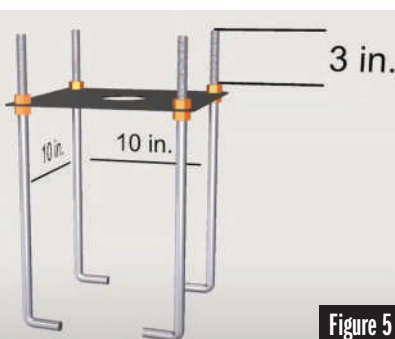

Figure 5
- Assemble the bolt plate as shown in Figure 5.